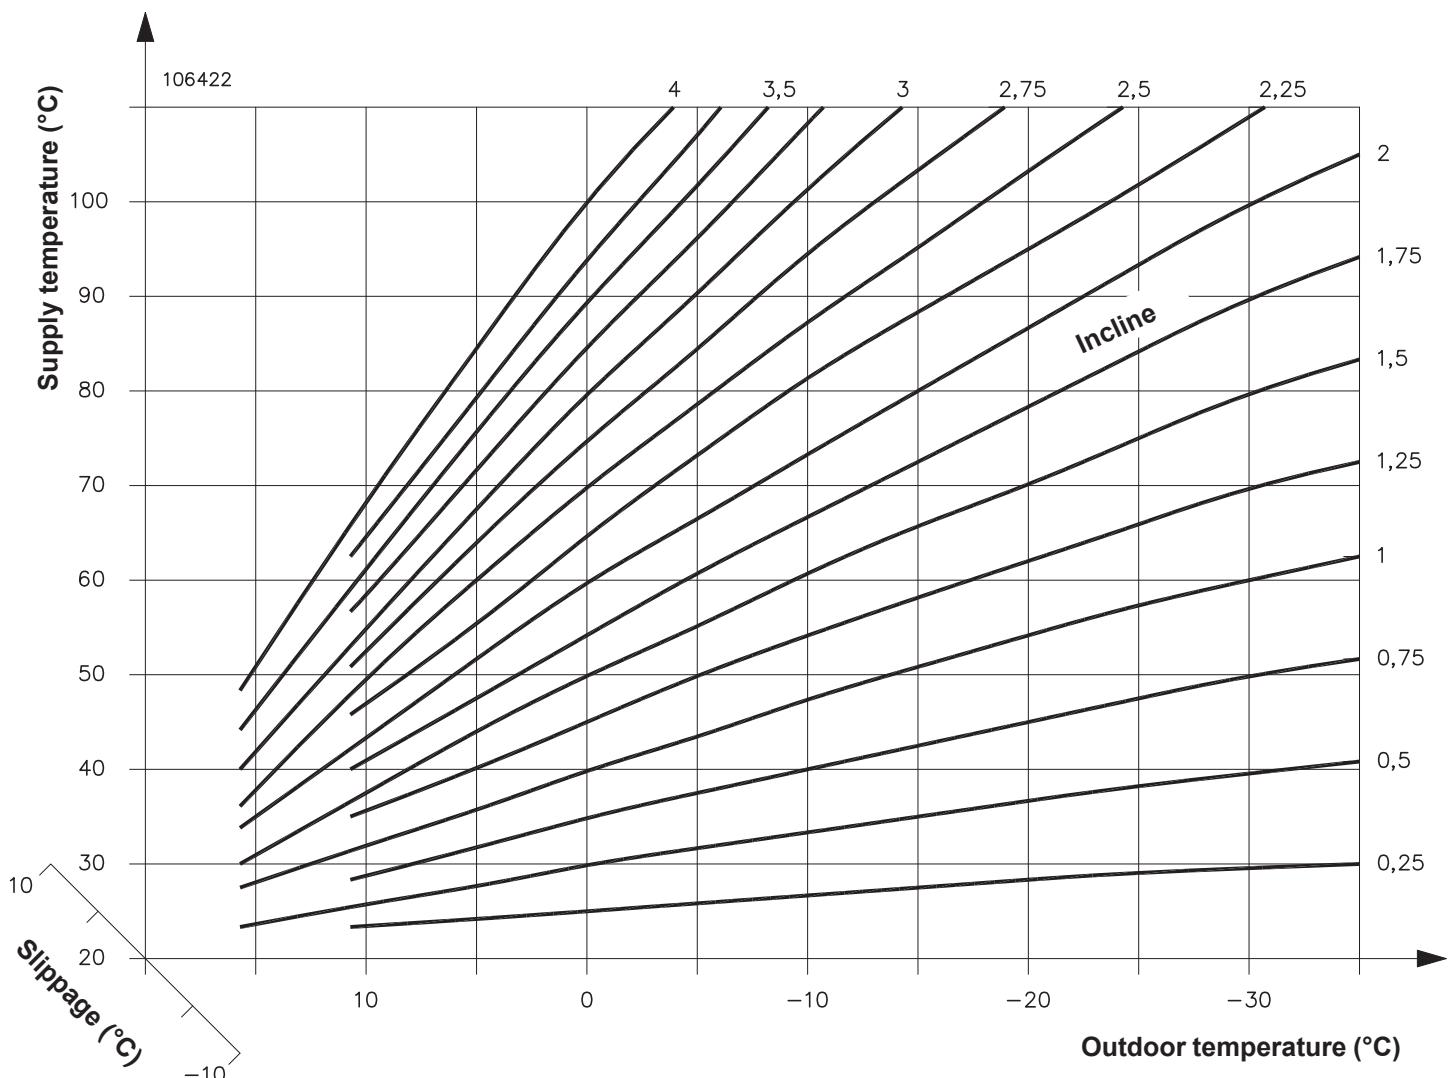

Figure 4-7 - Heating Outdoor reset
- **Outd Reset-RT** (Heating/Cooling according to the outdoor reser). The calculation algorithm (see Figure 4-7 or 4-8) of the outdoor sensor generates the setpoint of the heating/cooling zone.
The incidence of this parameter can be seen in figure 4-7.